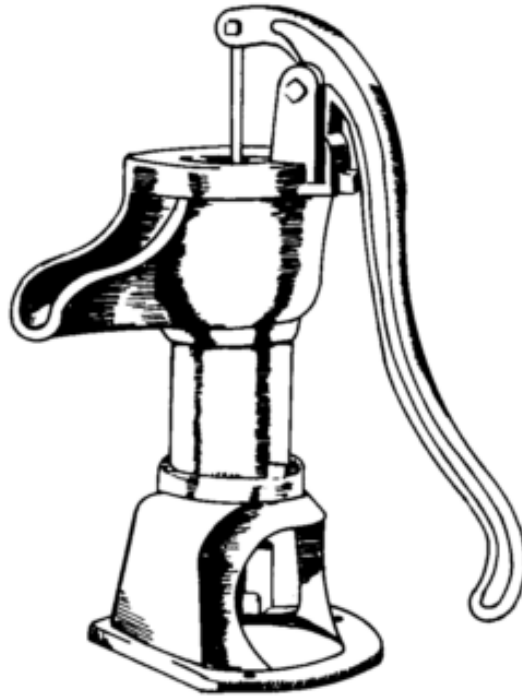

Figure 4-1. Pitcher pump
a. *Pitcher Pump.* This is a surface-mounted, reciprocating or single-acting piston pump (Figure 4-1). The pump has a hand-operated plunger that works in a cylinder designed to be set on top of the well casing. The suction pipe screws into the bottom of the cylinder. The plunger has a simple ball valve that opens on the downstroke and closes on the upstroke. Usually, a check valve at the lower end of the cylinder opens on the upstroke of the pump and closes on the downstroke. Continuous upstroke and